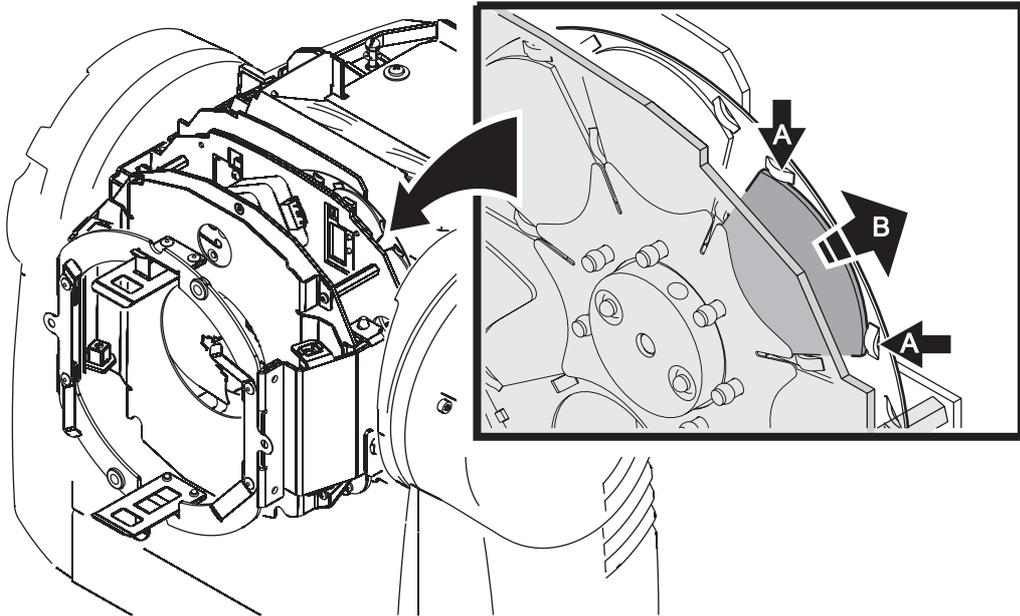

Figure 6
7. See Figure 6. A set of six beam effect gobos (P/N 62420250) is supplied in the Kit. To install a beam effect gobo, remove a color filter from the color wheel by pressing it gently away from its retaining tabs (A) and lifting it carefully out of the color wheel (B). Replace with a gobo. Store the original color filters safely for possible future re-use.